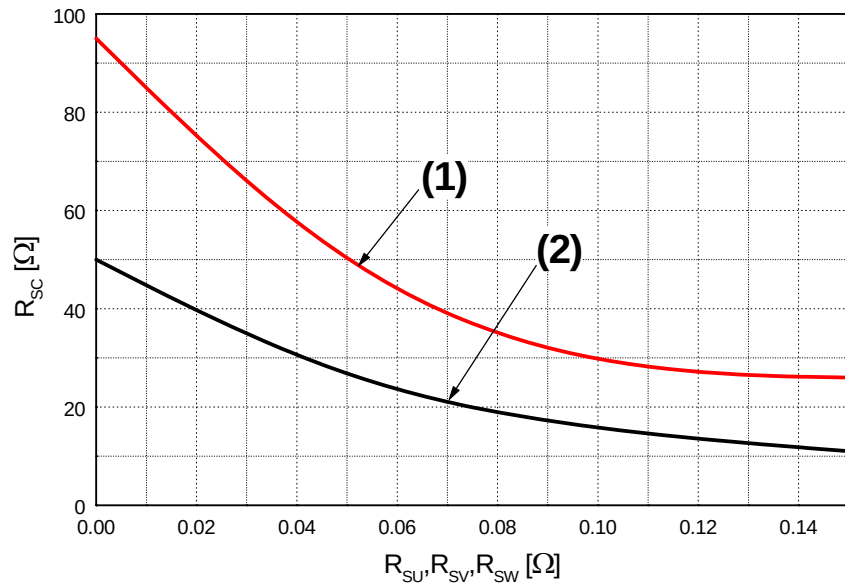

Figure 6. R_{SC} Variation by Change of Shunt Resistors (R_{SU} , R_{SV} , R_{SW}) for Short-Circuit Protection
- Short-circuit protection is functioning only at the low-sides. It would be recommended that the value of the external sensing resistor (R_{SC}) should be selected around 50 Ω in order to make the SC trip-level of about 15A, at the shunt resistors (R_{SU}, R_{SV}, R_{SW}) of 0 Ω. For the detailed information about the relationship between the external sensing resistor (R_{SC}) and the shunt resistors (R_{SU}, R_{SV}, R_{SW}), please see Figure 6.